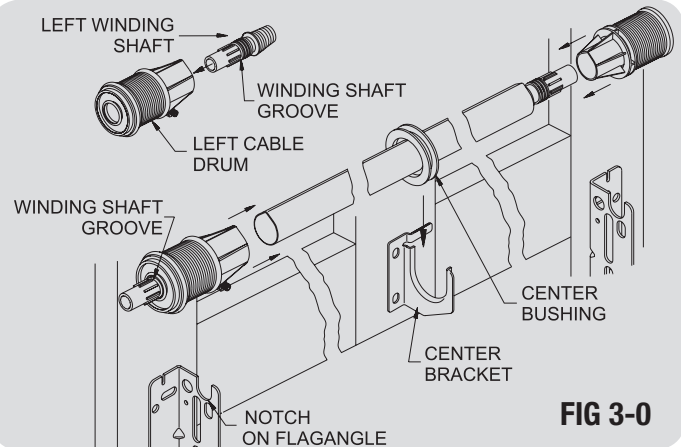

FIG 3-0
- 2 Lift tube up and align center bushing into center bracket. Push right cable drum over winding shaft until seated against spring tube and winding shaft groove is exposed - **FIG. 3-0**
- 3 Align groove in winding shaft with top notch on flag angle. Insert left winding shaft into left cable drum until shaft groove is exposed. Push left drum on until seated against tube and align winding shaft groove with top notch on flag angle - **FIG. 3-0**